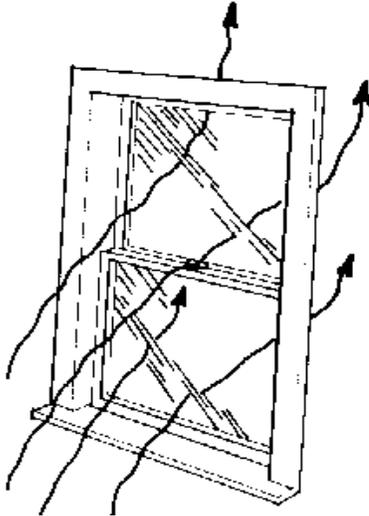

Figure 1
**Conduction** is heat transfer through solids. Glass is a good conductor of heat and therefore a poor insulator. Heat readily passes through glass (Figure 1). Using insulating treatments on windows can reduce all types of heat loss. In cold climates such as New York State, heat loss in winter is the major concern, although energy can also be saved by reducing solar heat gain in the summer.